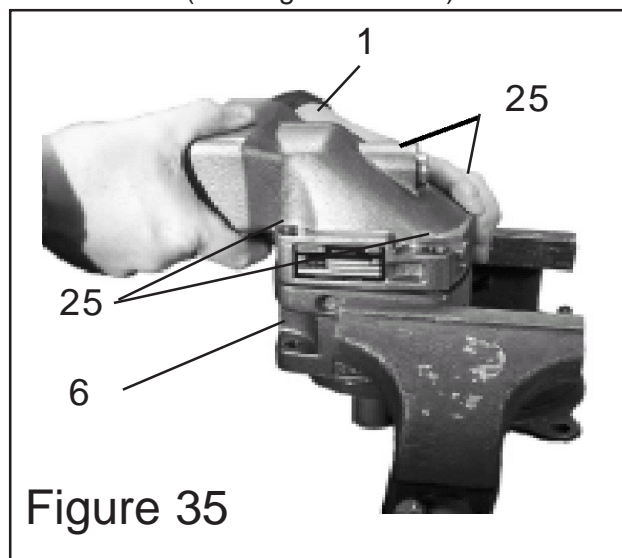
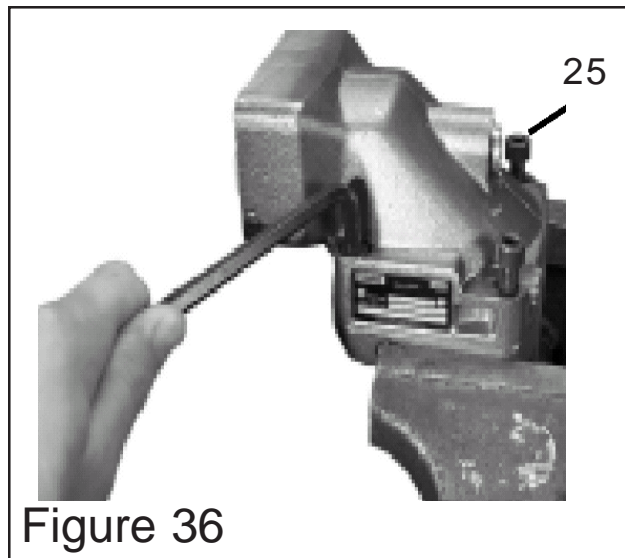

Figure 35
Figure 36
**17.** Install Barrel Housing. Clamp Bearing housing and Shaft assembly back into the vise. With the barrel housing assembly turned up as shown in figure 35. Make certain the Valve plate (item 2) is installed inside the barrel housing and facing the correct direction. Make certain the Shims (item 24) are still installed on the Bearing housing. Sit the barrel housing (item 1) down over the bearing housing (item 6). Install the four bolts (item 25), and Torque these four bolts using an alternating pattern to 75 ft. lbs. +/- 7 ft lbs (See Figure 36)